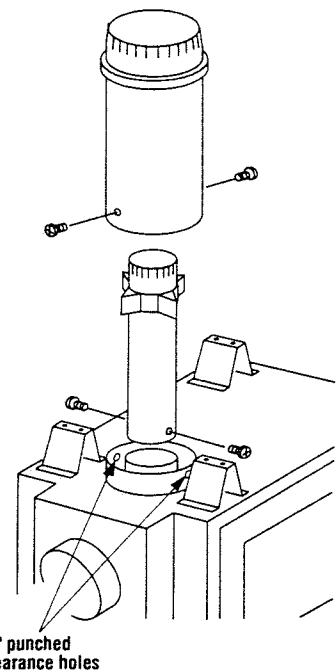

Figure 22
C. Next, slip the outer section over the inner and onto outer appliance collar, bottoming out at the bead. Make sure the crimped end of both inner and outer vent sections are the same height. Secure using two (2) sheet metal screws (Figure 22).